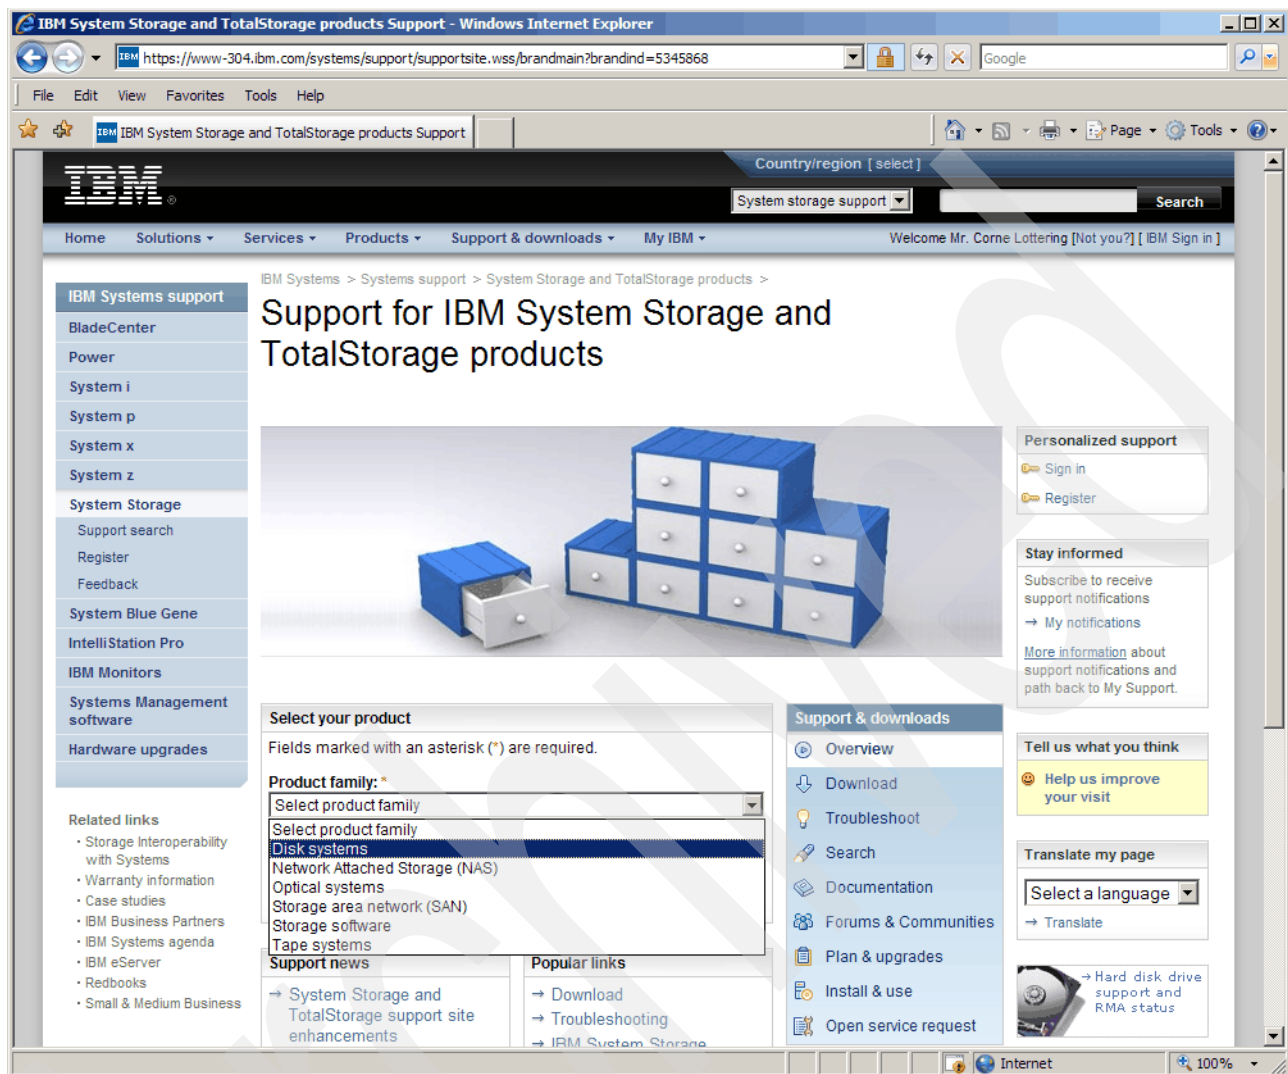

Figure B-2 IBM Support - Select Product family
2. Select **Disk systems** from the Product family drop-down menu, as shown in Figure B-2.